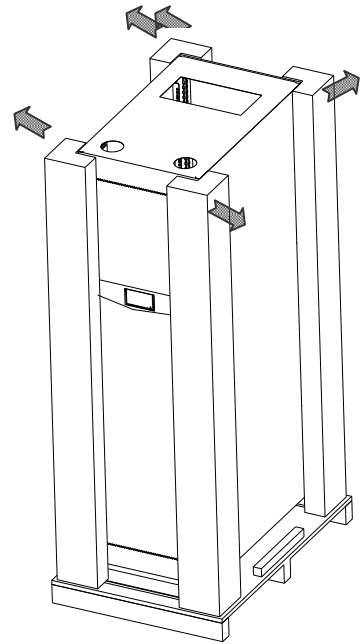

Fig.3-3
3. Remove the foam and plastic bag around the unit (See Fig.3-3);